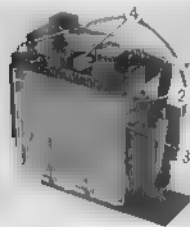

Fig. 5.37 Battery electrolyte level
- Always maintain the electrolyte level above the lower electrolyte level marking on the battery. When replenishing, add distilled water to raise the electrolyte level to the upper marking. (Fig. 5.37)